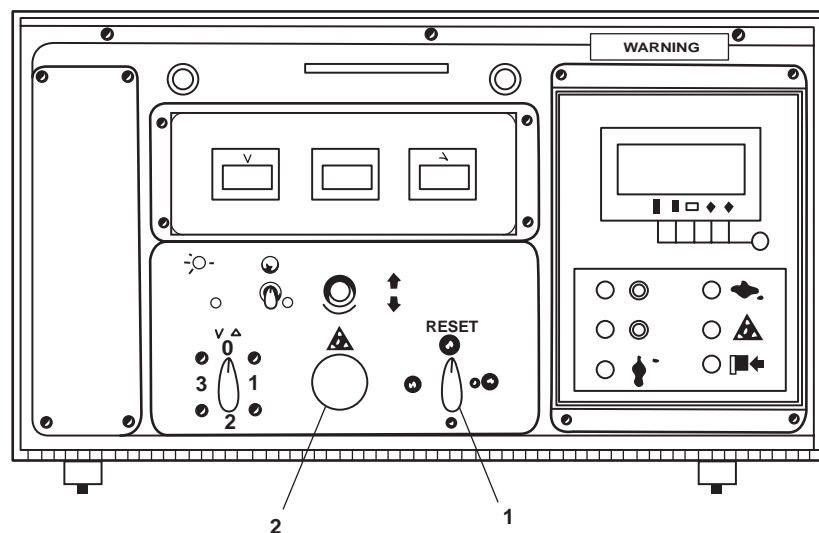

Figure 1. EDG Control Panel
- a. Place the RESET control switch (figure 1, item 1) in the RESET position.
- b. Push the red START/STOP pushbutton (figure 1, item 2) to the IN position to disconnect the starting circuit.